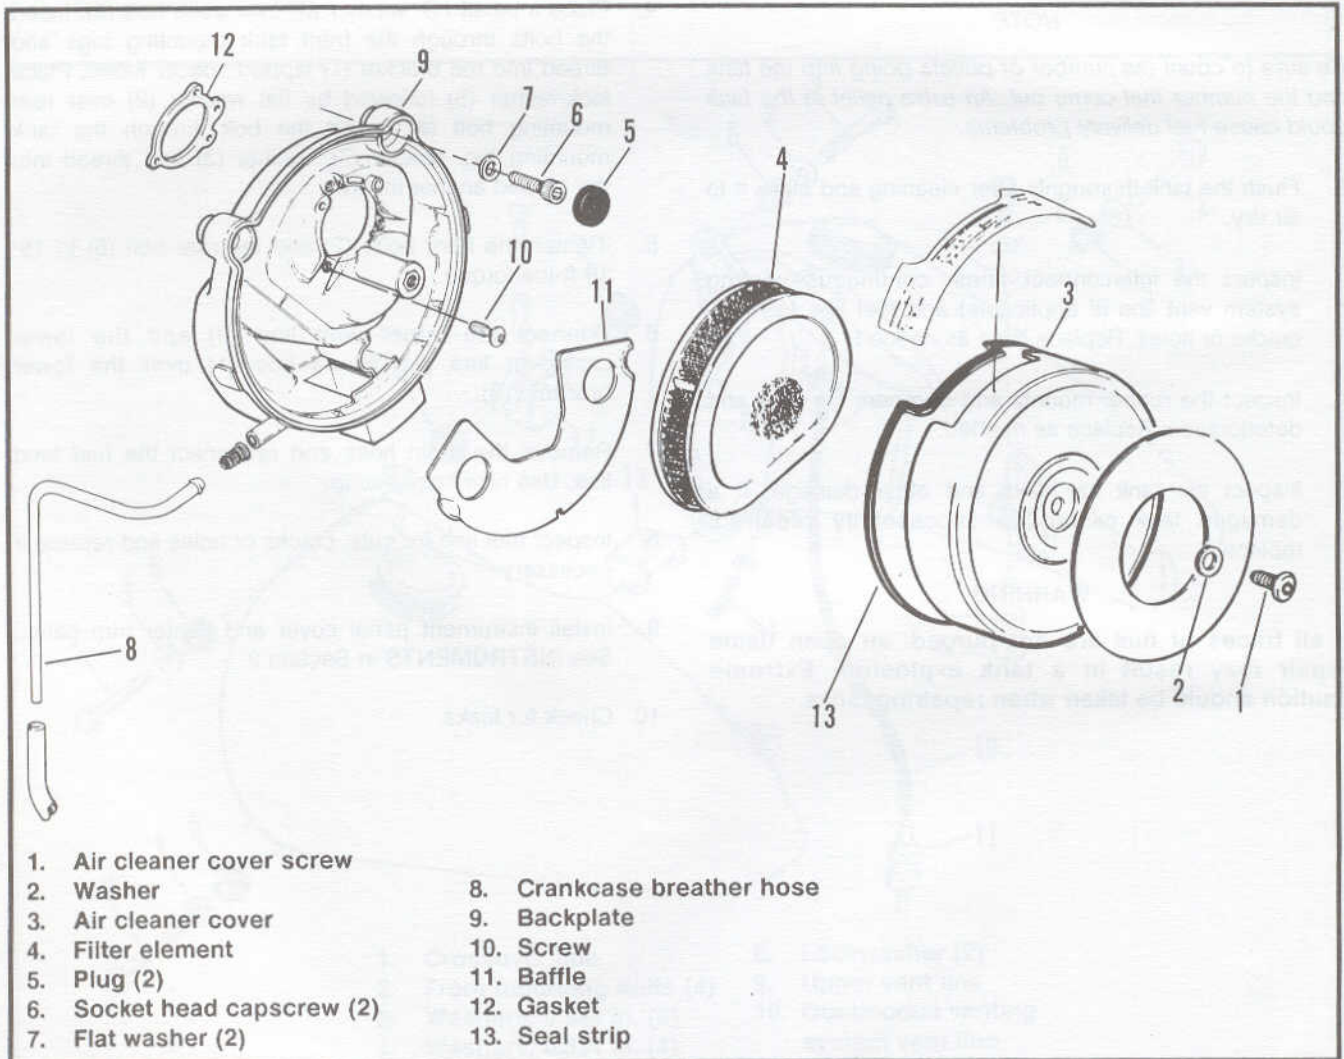

Figure 4-16. Air Cleaner - General
REMOVAL (Figure 4-16)
INSTALLATION (Figure 4-16)
7. See Figure 4-16. Position gasket (12) and backplate (9) next to carburetor and install the crankcase breather tube (8). Start each captive screw (10) into threaded holes in carburetor flange.
9. Insert one screw (6) with washer (7) into each upper backplate mounting hole and thread loosely into the threaded hole in each cylinder head.